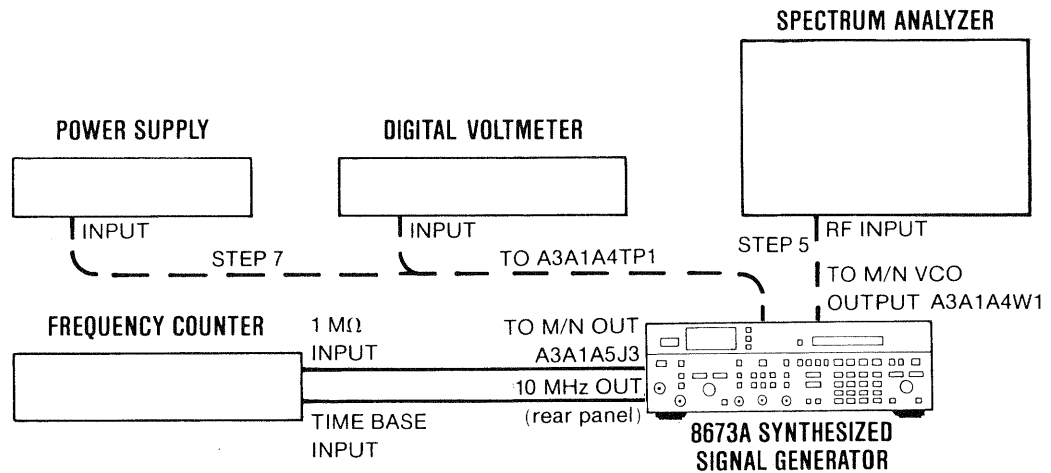

Figure 5-5. M/N Loop Adjustment Test Setup
2. Connect the equipment as shown in Figure 5-5.